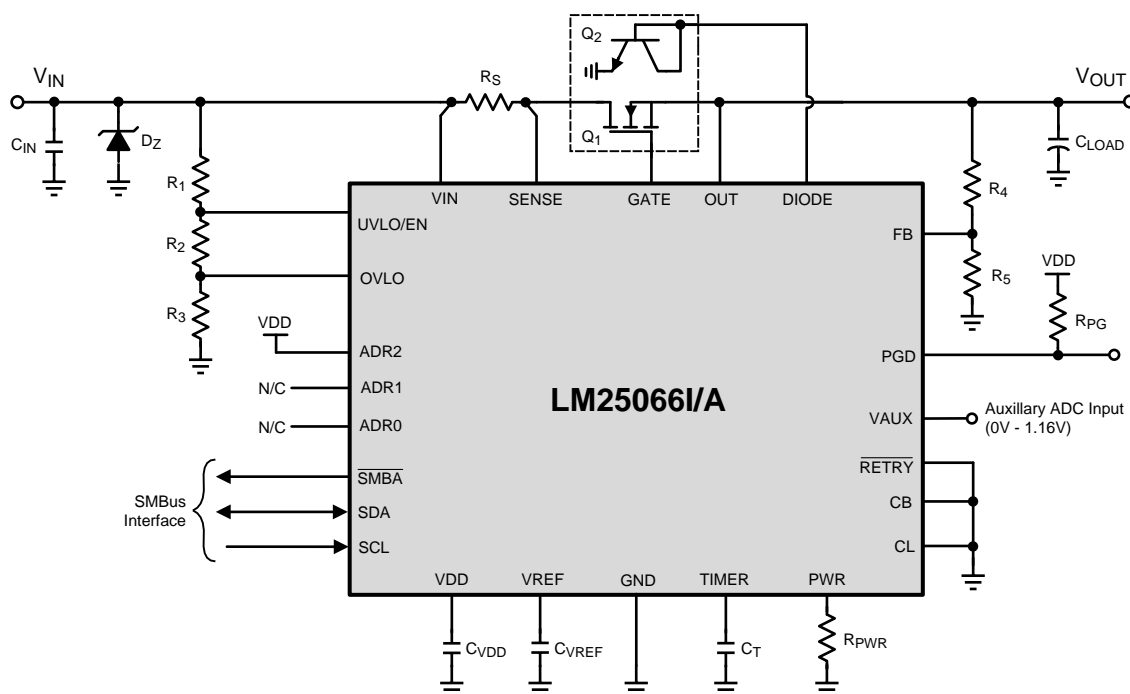
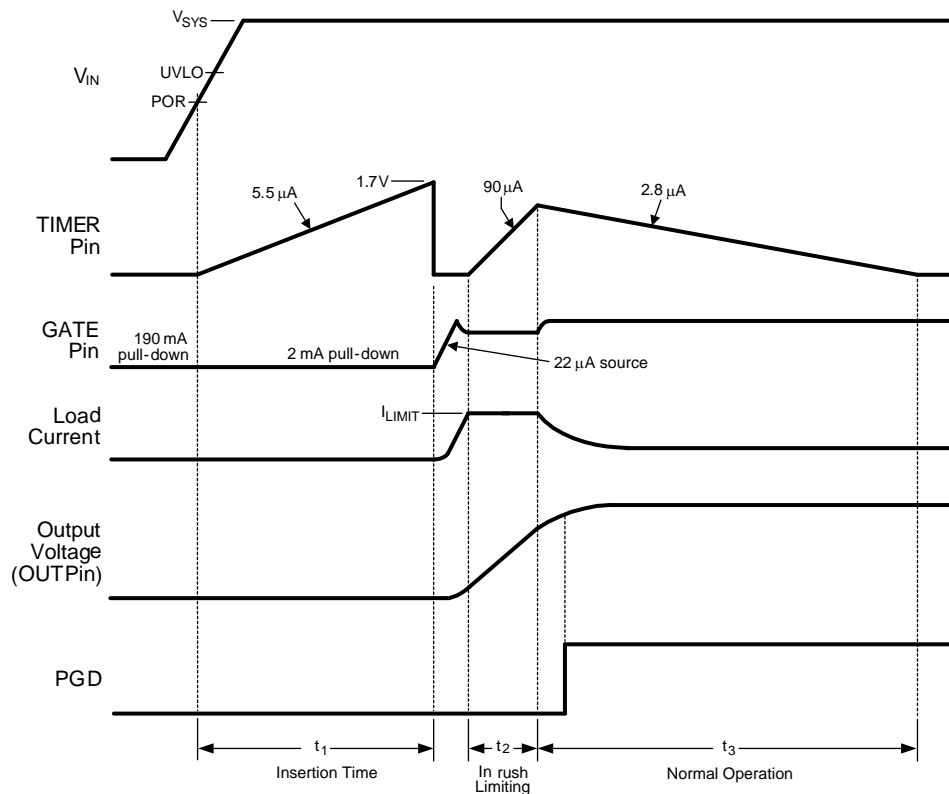

Figure 31. Typical Application Circuit
Figure 32. Power Up Sequence (Current Limit Only)
The V_{IN} operating range of the LM25066I/A is +2.9V to +17V, with transient capability to +24V. Referring to Figure 31 and Figure 32, as the voltage at V_{IN} initially increases, the external N-channel MOSFET (Q_1) is held off by an internal 190 mA pulldown current at the GATE pin. The strong pulldown current at the GATE pin prevents an inadvertent turn-on as the MOSFET’s gate-to-drain (Miller) capacitance is charged. Additionally, the TIMER pin is initially held at ground. When the V_{IN} voltage reaches the POR threshold, the insertion time begins. During the insertion time, the capacitor at the TIMER pin (C_T) is charged by a 5.5 μ A current source and Q_1 is held off by a 2 mA pulldown current at the GATE pin regardless of the input voltage. The insertion time delay allows ringing and transients at V_{IN} to settle before Q_1 is enabled. The insertion time ends when the TIMER pin
As the voltage at the OUT pin increases, the LM25066I/A monitors the drain current and power dissipation of MOSFET Q_1 . Inrush current limiting and/or power limiting circuits actively control the current delivered to the load. During the inrush limiting interval (t_2 in Figure 32), an internal 90 μ A fault timer current source charges C_T . If Q_1 's power dissipation and the input current reduce below their respective limiting thresholds before the TIMER pin reaches 1.7V, the 90 μ A current source is switched off and C_T is discharged by the internal 2.8 μ A current sink (t_3 in Figure 32). The PGD pin switches high when FB exceeds its rising threshold of 1.167V.
A charge pump provides the voltage at the GATE pin to enhance the N-Channel MOSFET's gate. During normal operating conditions (t_3 in Figure 32) the gate of Q_1 is held charged by an internal 22 μA current source. The voltage at the GATE pin (with respect to ground) is limited by an internal 18.8 V zener diode. See the graph "GATE Pin Voltage" shown previously. Since the gate-to-source voltage applied to Q_1 could be as high as 18.8 V during various conditions, a zener diode with the appropriate voltage rating must be added between the GATE and OUT pins if the maximum V_{GS} rating of the selected MOSFET is less than 18.8 V. The external zener diode must have a forward current rating of at least 190 mA. When the system voltage is initially applied, the GATE pin is held low by a 190 mA pulldown current. This helps prevent an inadvertent turn-on of the MOSFET through its drain-gate capacitance as the applied system voltage increases.
During the insertion time (t_1 in Figure 32) the GATE pin is held low by a 2 mA pulldown current. This maintains Q_1 in the off-state until the end of t_1 , regardless of the voltage at VIN or UVLO. Following the insertion time (t_2 in Figure 32), the gate voltage of Q_1 is controlled to keep the current or power dissipation level from exceeding the programmed levels. While in the current or power limiting mode, the TIMER pin capacitor is charging. If the current and power limiting cease before the TIMER pin reaches 1.7V, the TIMER pin capacitor then discharges, and the circuit begins normal operation. If the inrush limiting condition persists such that the TIMER pin reached 1.7V during t_2 , the GATE pin is then pulled low by the 190 mA pulldown current. The GATE pin is then held low until either a power up sequence is initiated ($\overline{\text{RETRY}}$ pin to VDD), or an automatic retry is attempted ($\overline{\text{RETRY}}$ pin to GROUND). See Fault Timer and Restart. If the system input voltage falls below the UVLO threshold or rises above the OVLO threshold, the GATE pin is pulled low by the 2 mA pulldown current to switch off Q_1 .
When the current limit or power limit threshold is reached during turn-on, or as a result of a fault condition, the gate-to-source voltage of Q_1 is controlled to regulate the load current and power dissipation in Q_1 . When either limiting function is active, a $90\ \mu\text{A}$ fault timer current source charges the external capacitor (C_T) at the TIMER pin as shown in Figure 32 (Fault Timeout Period). If the fault condition subsides during the Fault Timeout Period before the TIMER pin reaches 1.7V, the LM25066I/A returns to the normal operating mode and C_T is discharged by the 1.9 mA current sink. If the TIMER pin reaches 1.7V during the Fault Timeout Period, Q_1 is switched off by a 2 mA pulldown current at the GATE pin. The subsequent restart procedure then depends on the selected retry configuration.
A) Insertion Delay -Upon applying the system voltage (V_{SYS}) to the circuit, the external MOSFET (Q_1) is held off during the insertion time (t_1 in Figure 32) to allow ringing and transients at V_{SYS} to settle. Since each backplane's response to a circuit card plug-in is unique, the worst case settling time must be determined for each application. The insertion time starts when VIN reaches the POR threshold, at which time the internal 5.5 μA current source charges C_T from 0V to 1.7V. The required capacitor value is calculated from: